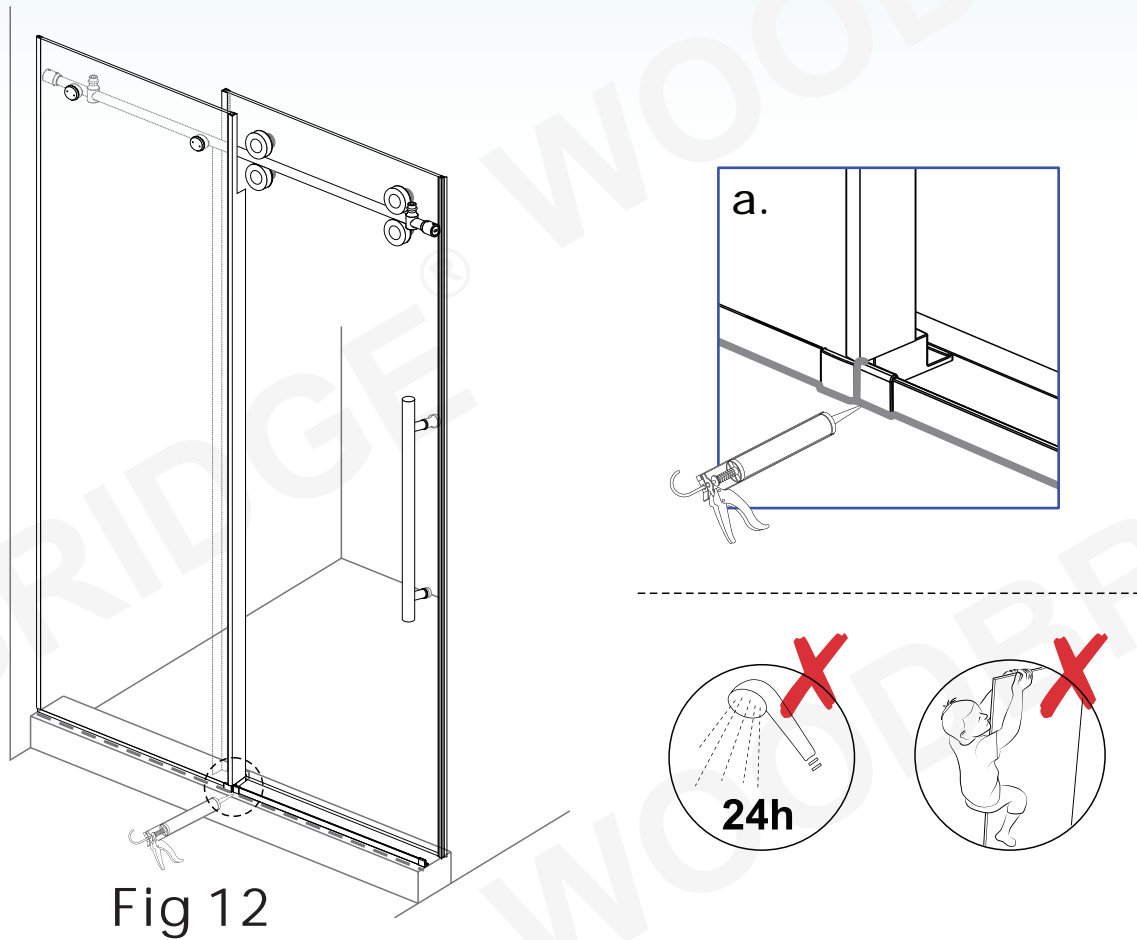

Fig 12
12. As shown in Fig12, apply glazing compound to seal and waterproof.